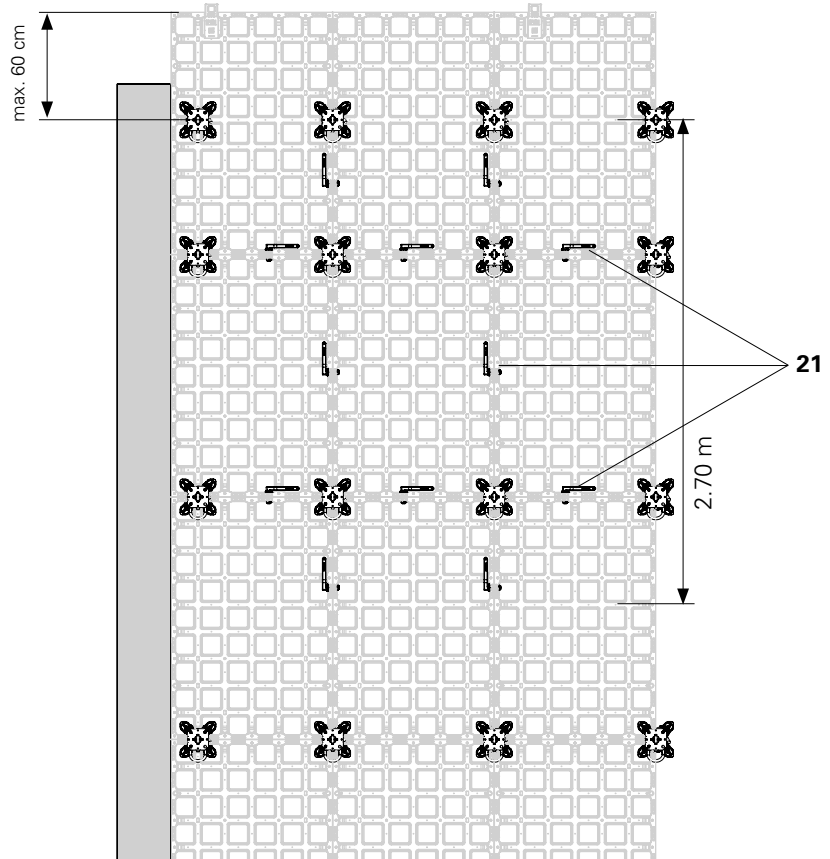

Fig. D4.07
- in the area of 2.7 m from the slab edge, each DP panel is connected on the short and long joints using 1 DUO coupler (21).
- (Fig. D4.07)